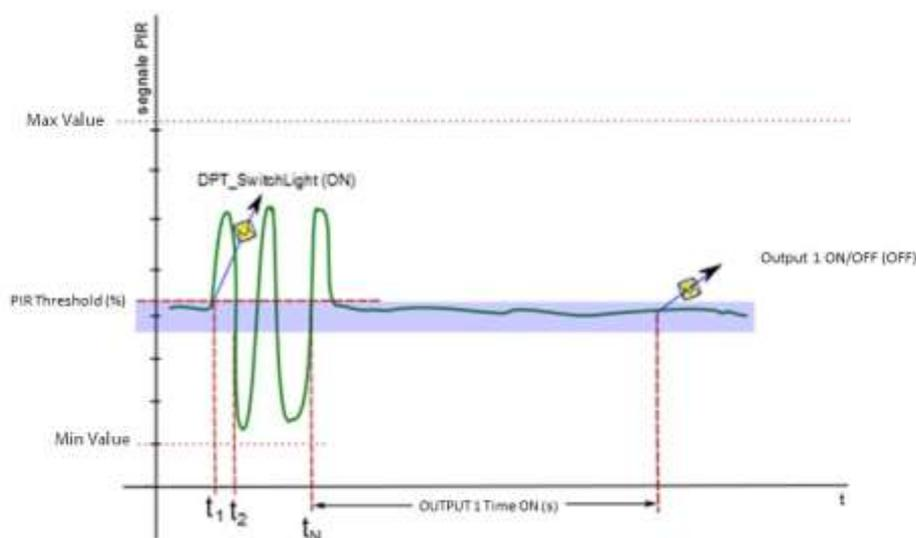

Figure 2: example of DPT\_Output1 ON/OFF sending
As a result, the **DPT\_Output1 ON/OFF** message can activate a light actuator which will switch on for a minimum time equal to the time-out time, corresponding to the **PAR\_OUTPUT 1 Time ON (s)** parameter (default value) or to the value sent via the **DPT\_Output1 ON (s)** message i.e., a temporary value until the next reboot of the device. Once the time period expires in the no presence status, the **DPT\_Output1 ON/OFF** is sent with OFF value and the light goes off. Figure 2 refers to a Slave device, shows an example of the messages sent in case the motion threshold of movement sensor PIR1 has never been changed through the **DPT\_PIR 1 (R) Threshold (%)** datapoint, under the condition that the brightness is inferior to the minimum value (condition b).